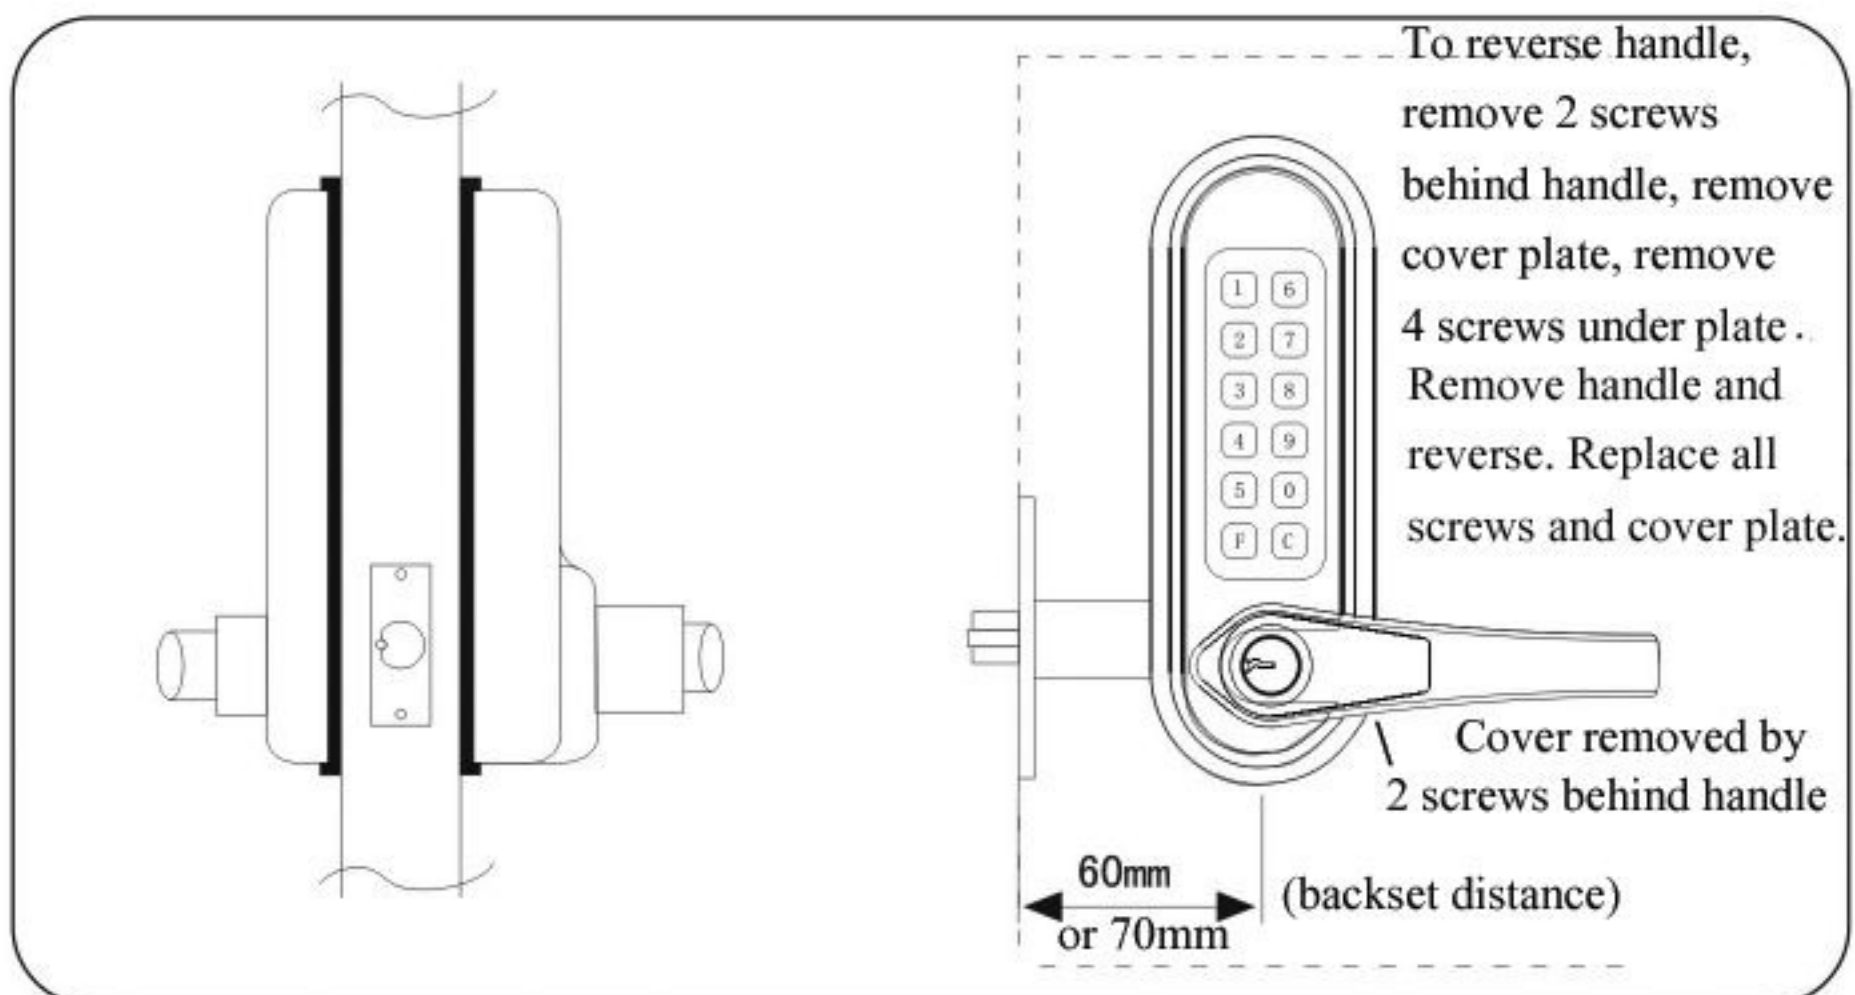

Figure 1
Please see Figure 1 for finished assembly diagram and example of backset for your reference.
- For Left-hung door installations the handle positions will need to be reversed. To reverse the handle direction of the external keypad refer to Figure 1. Carefully remove the 2 screws on the back of the handle to remove the cover plate from the handle. Put these aside so they will not be lost. Carefully remove the 4 screws under the cover plate. Pull the handle off and reinstall in the opposite position. Replace the screws and cover plate. To reverse the internal handle, loosen the the set screw at the top of the handle using the included T10 torx driver until the handle can be removed. Reverse and reinstall the handle and retighten the set screw.